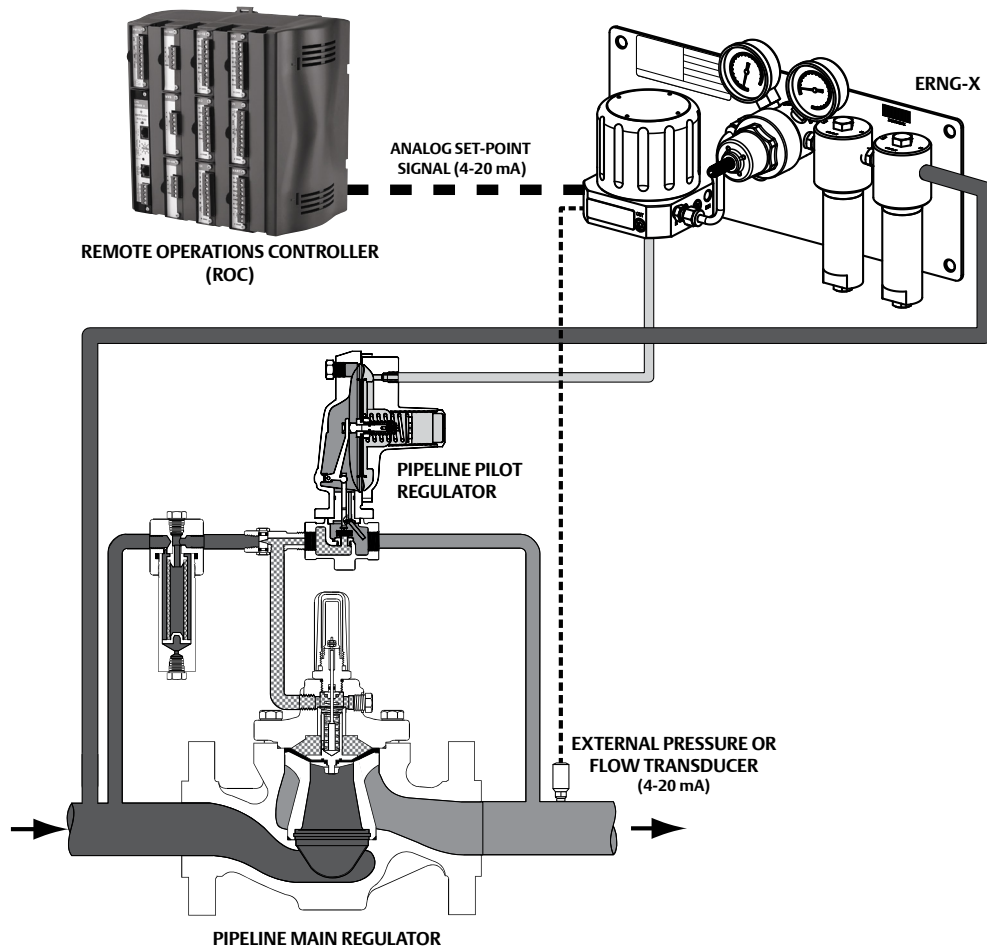

Figure 2. Typical Installation
In a typical application, the control port of the ERNG-X connects to the spring case of the pipeline pilot regulator. This is shown in Figure 2. Supply pressure of up to 110 psig / 7.5 bar, is provided to the ERNG-X controller by the factory preset supply regulator.
- The ERNG-X is factory set to tuning parameters for the application shown in Figure 2. The update rate is slowed down from 25 milliseconds to 500 milliseconds to allow for better stability in the system and to allow for the response of the ER controller to be translated downstream to the external pressure or flow transducer before making another set-point change. There are also control limits placed on the Analog Set Point and External Sensor in case of lost communication and/or power. Both the Analog Set Point and External Sensor are preset to a minimum of -1% with a condition of Inlet Closed and Exhaust Closed. If the application does not use a 4-20 mA Analog Set Point and/or a 4-20 mA External Sense Transducer, these control limits must be changed. To better suit all applications, the tuning parameters and control features may need to be modified. Refer to ER5000 User Manual for more details.